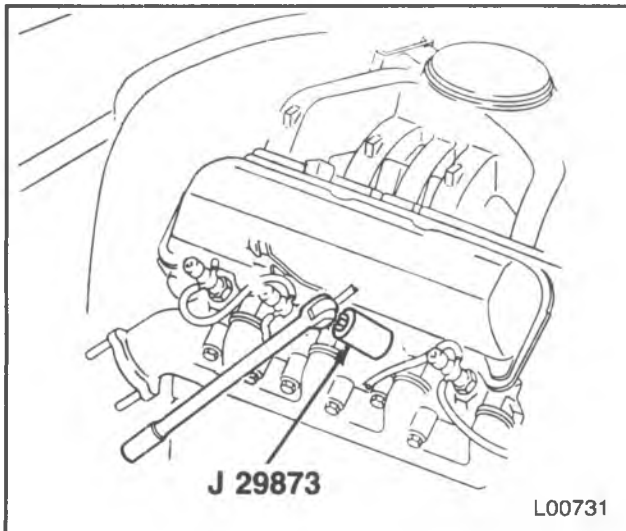

Figure 14 — Removing/Installing Injection Nozzle
5. Injection nozzle using J 29873 (figure 14).
1. Injection nozzle using J 29873 (figure 14).